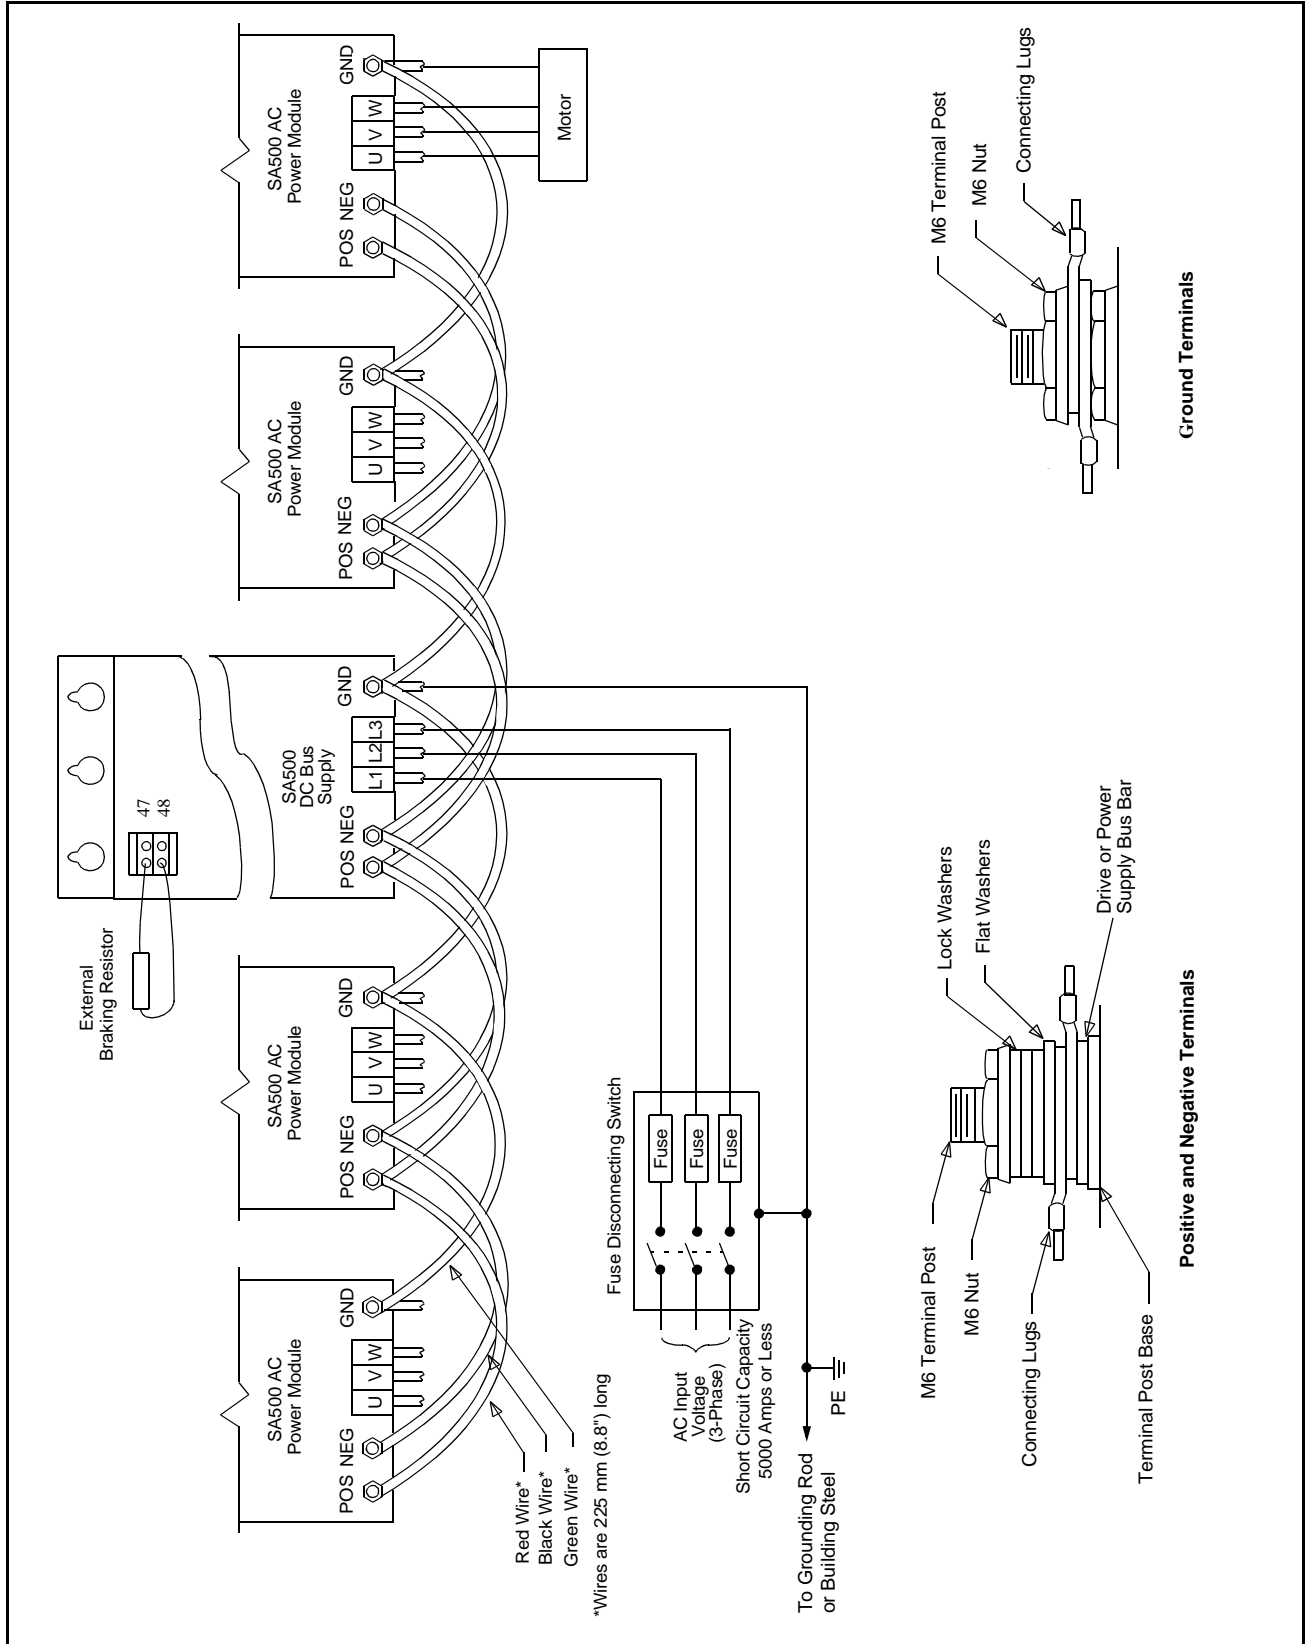

Figure 4.2 – DC Bus Supply Wiring
The grounding stud (GND) on the Power Module must be connected to the grounding stud on the DC Bus Supply, as shown in figure 4.2. The DC Bus Supply must be connected to earth ground (PE) and checked with an ohmmeter before power is applied.
Step 2. Connect the DC bus wires (POS, NEG, GND) from the DC Bus Supply to the Power Module. See figure 4.2.